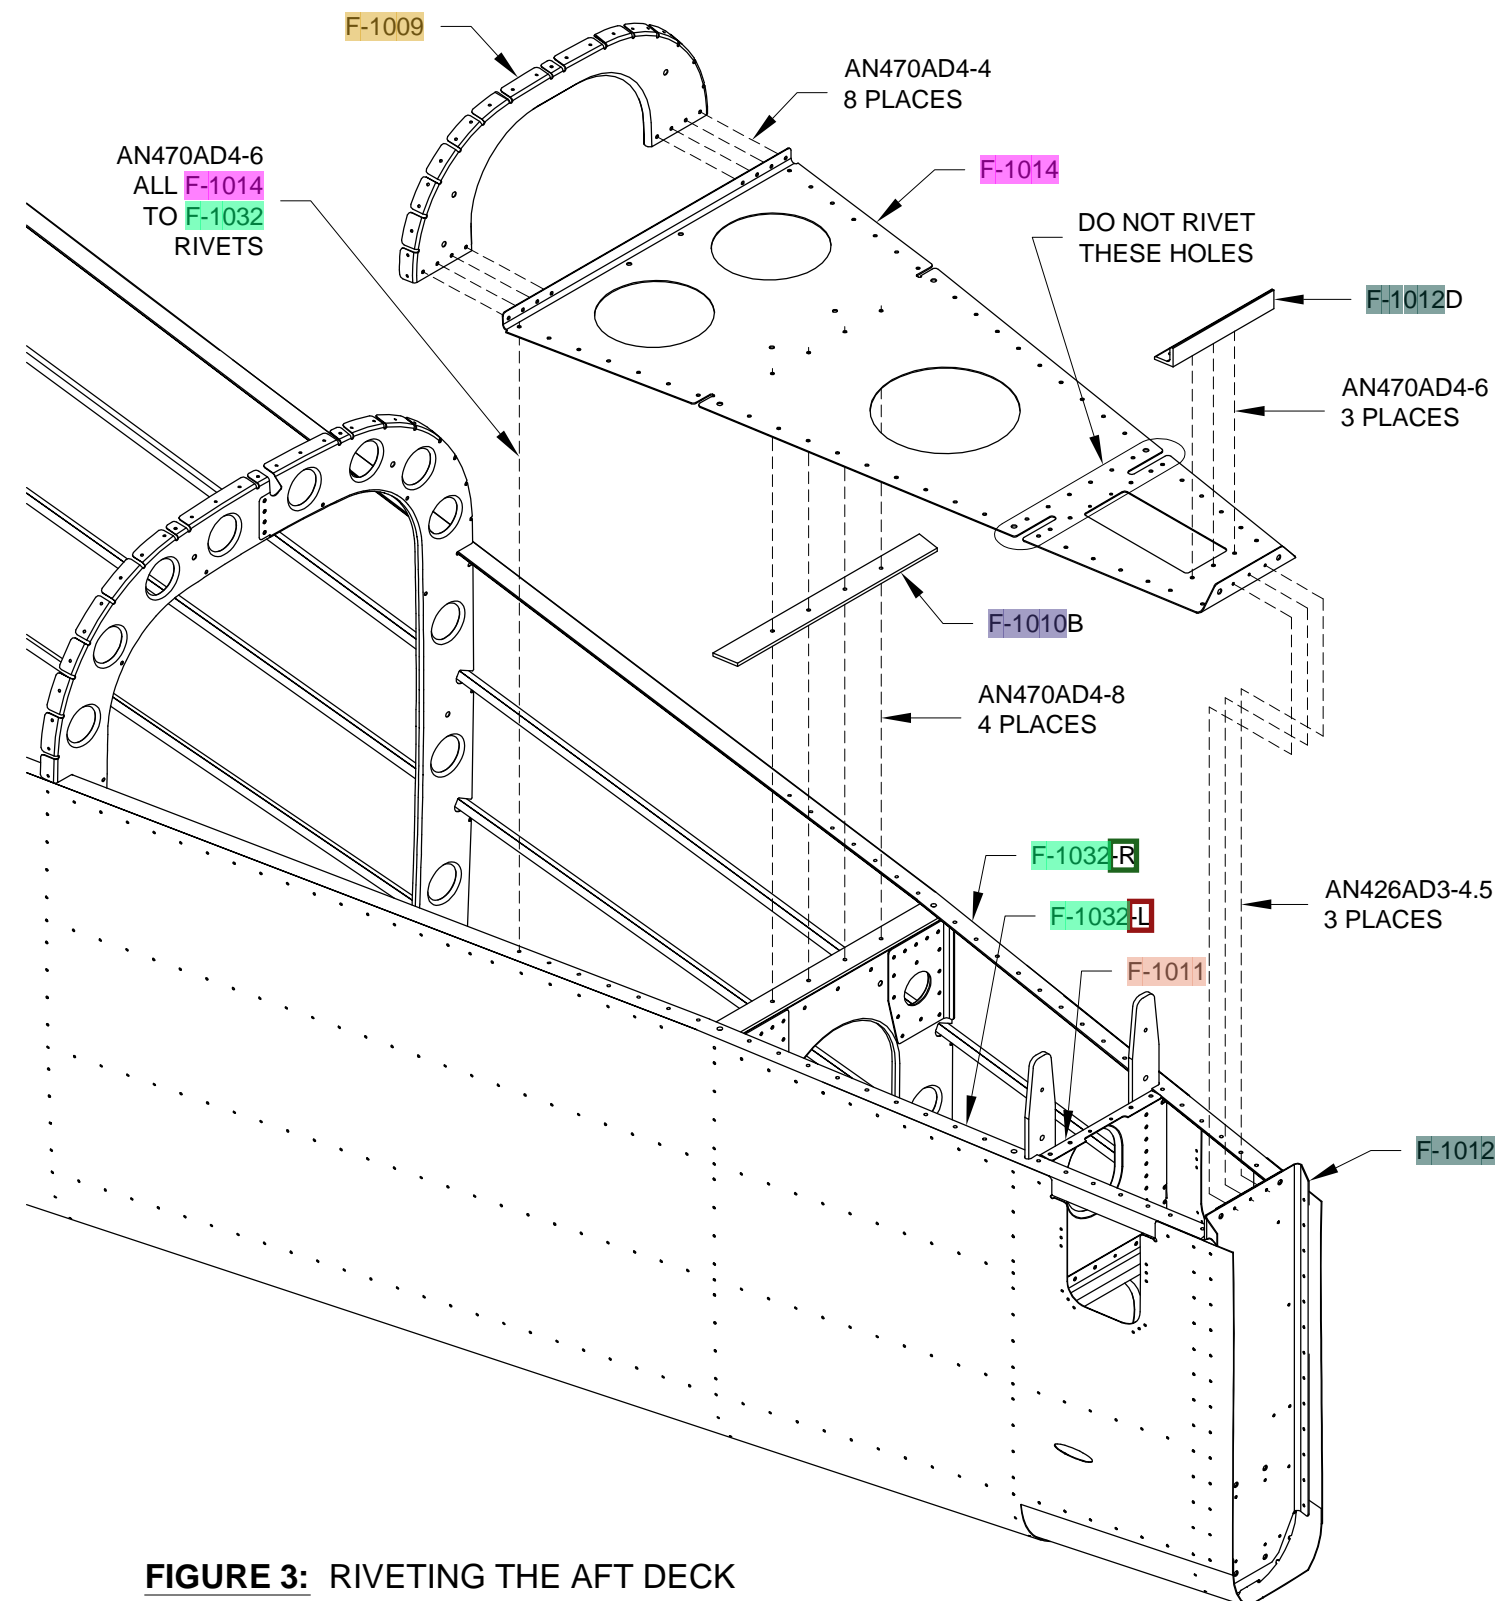

FIGURE 3: RIVETING THE AFT DECK
Step 5: Cleco the parts shown in Figure 3, then, using the rivets called out, rivet them together. Leave the F-1009 Frame for last so it's not in the way while riveting the rest of the parts. As indicated in the figure, don't install any rivets in the F-1014 Aft Deck in the area of the F-1011 Bulkhead.